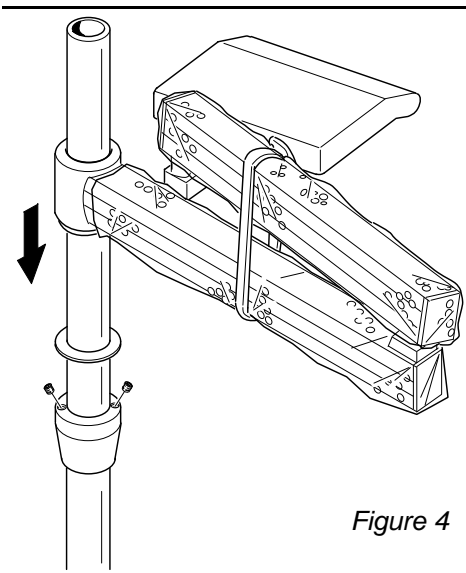

Figure 4
A. Follow these instructions if your system came with a 40" post and a post mounted flex arm (Figure 4).